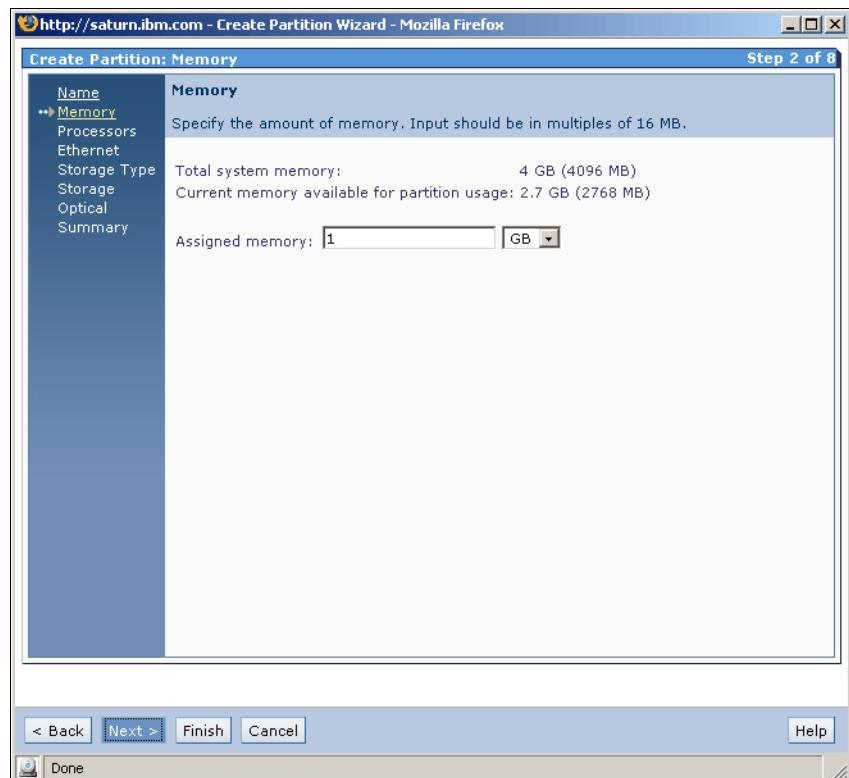

Figure 6-17 Create partition - configure the amount of memory
6. Define the amount of memory that will be assigned to the partition. In Figure 6-17 we chose 1 GB. Click **Next** to proceed.